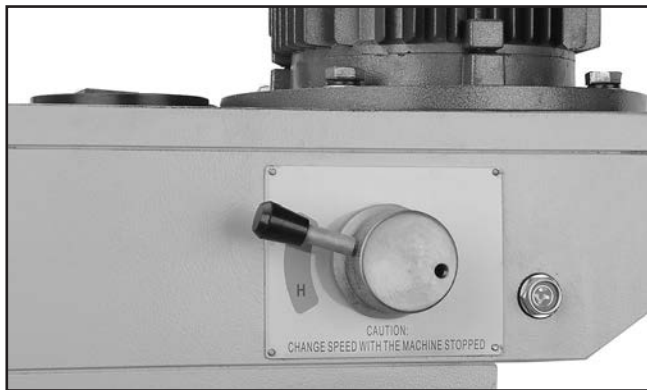

Figure 34. High/Low gear selector in "L" position.
1. Select appropriate speed range using high/low gear selector (see **Figure 34**).